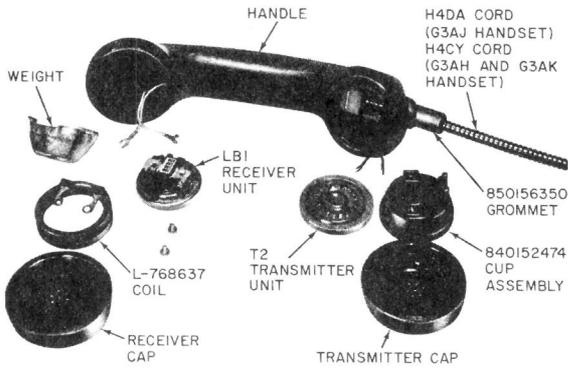

Fig. 3—G3AH, G3AJ, and G3AK Handsets
2.17 The G3AH, G3AJ, and G3AK handsets (Fig. 3) are intended for use on coin telephones. The G3AH and G3AK on single-slot coin telephones and the G3AJ on multi-slot coin collectors. These handsets contain an LB1 receiver unit and L-768637 coil (Fig. 3) which provides an external magnetic field for inductive coupling to certain types of hearing aids. Each handset also contains a zinc weight mounted in the receiver end of the handset.